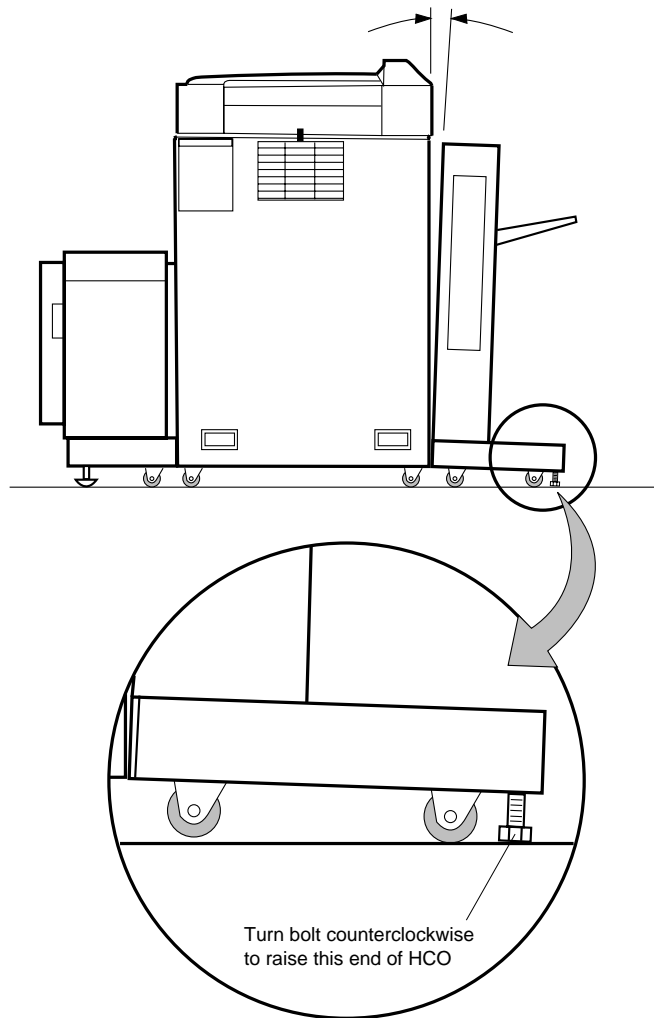

Figure 4-29 Adjusting Front Levelers
7. If the HCO is not parallel to the printer, turn the two front levelers counterclockwise to tilt the top of the HCO securely against the printer. See Figure 4-29.